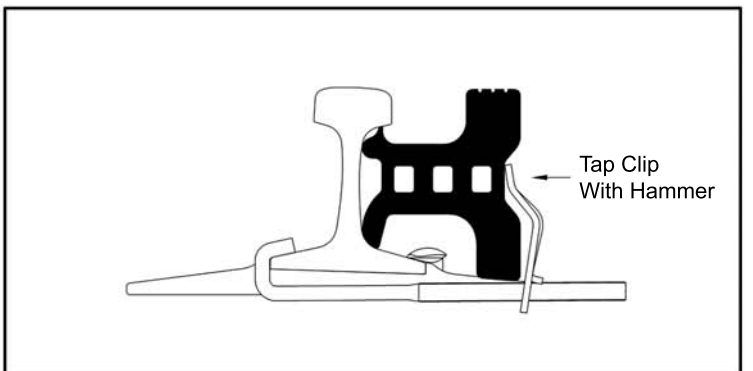

Figure 4
- 4** Tap the ratcheting clip with a hammer until seated firmly into the railseal (Fig. 4)